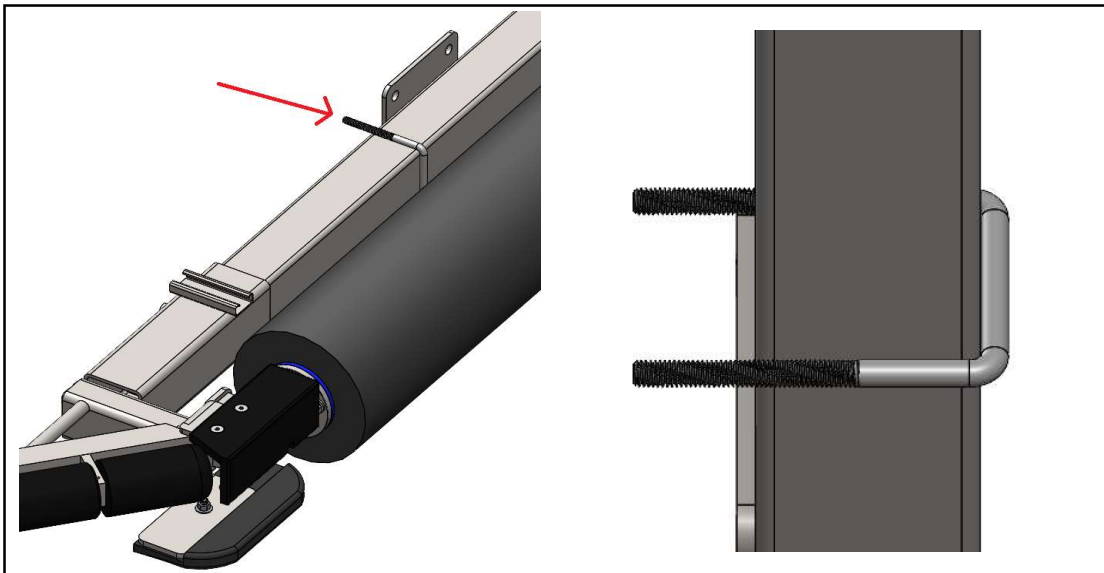

Figure 3: Location and orientation of the first u-bolt applied to brush unit.
5.) Slide one of the U-bolts around the brush support as shown in **Figure 3**. Note that the threaded portion of the u-bolts should face away from the brush and the center of the pit.